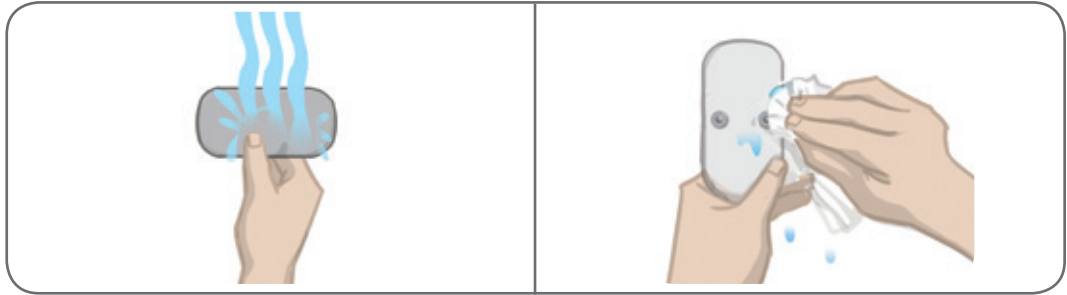

Figure 6-9: Wetting the Electrode and Removing Excess Water
3. Wet the Thigh Electrodes with water. See Figure 6-9. Gently squeeze the Thigh Electrodes together.
4. Remove excess water from the snap side of the Thigh Electrodes with a cloth. See Figure 6-9.